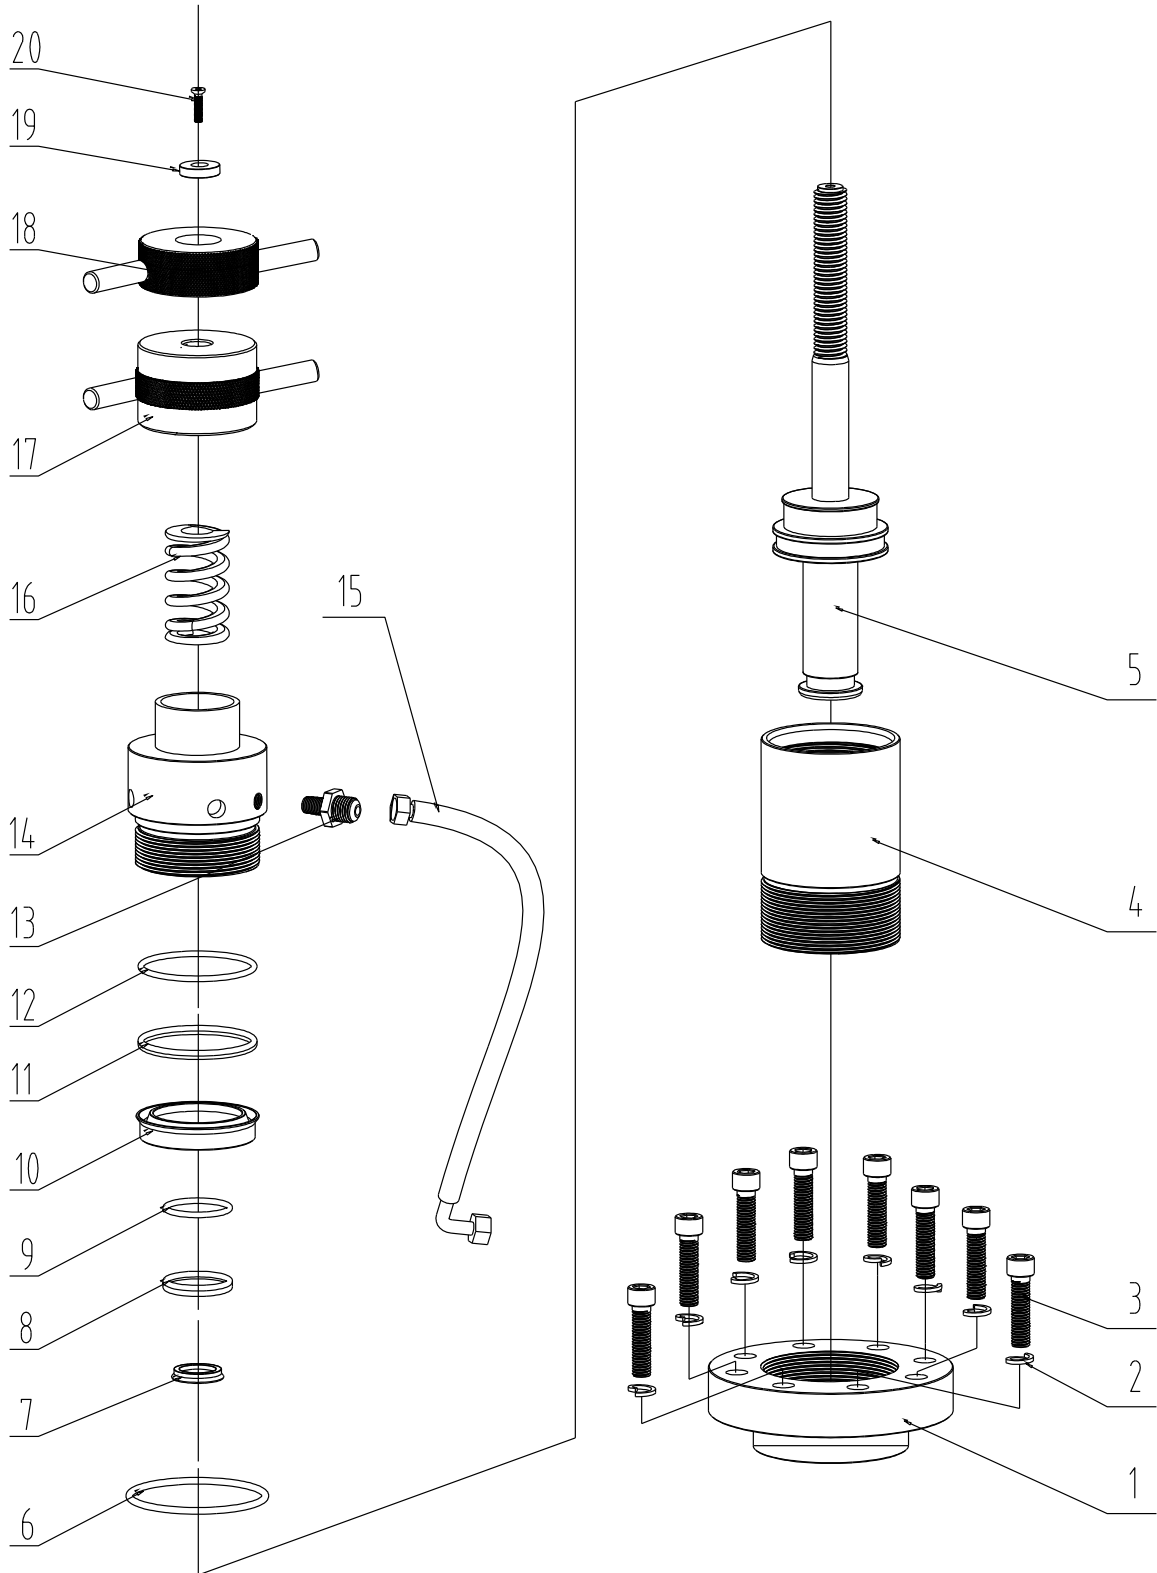

Figure 15
4. Oil tank assembly (Figure 15) parts list